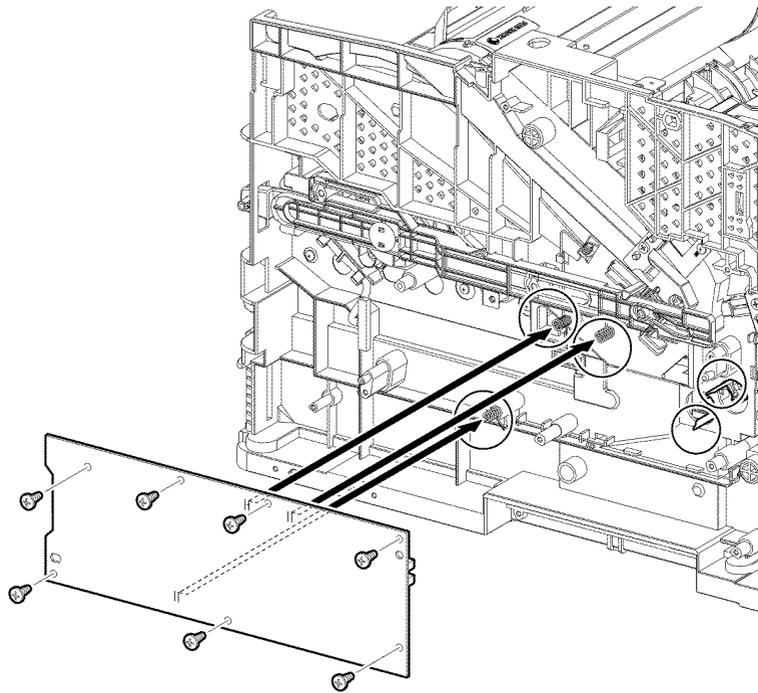

Figure 3 HVPS installation
2. When installing the HVPS, ensure that the ends of the three conductive springs provided on the frame are in contact with the terminals on the board, and that the two sensor on the HVPS is correctly aligned with the registration shutter sensor, Figure 3.